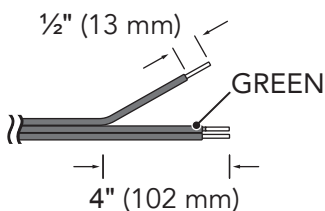

Figure 8. Heater and remote thermostat wiring schematic.
1. Starting from the end of the thermostat cord, split apart each wire into 4 inch (102 mm) segments. Strip the conductor ends approximately 1/2 inch (13 mm). See Figure 8.